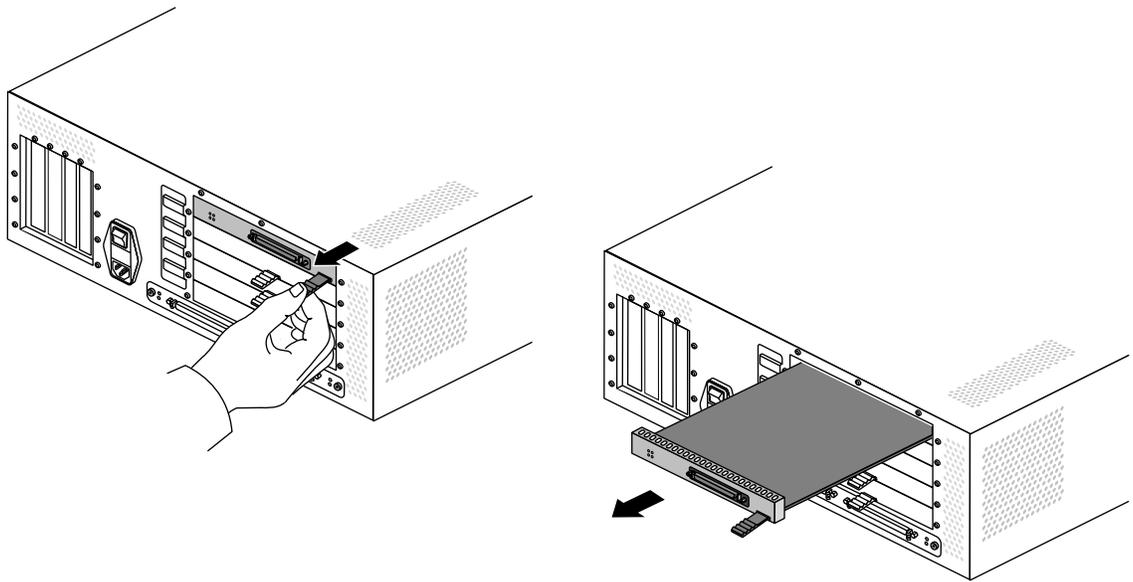

Figure 2-22 Removing an XIO Board From a GIGAchannel Expansion Cabinet
- Pull the tab on the board and slide the board out of the XIO slot, as shown in Figure 2-22.